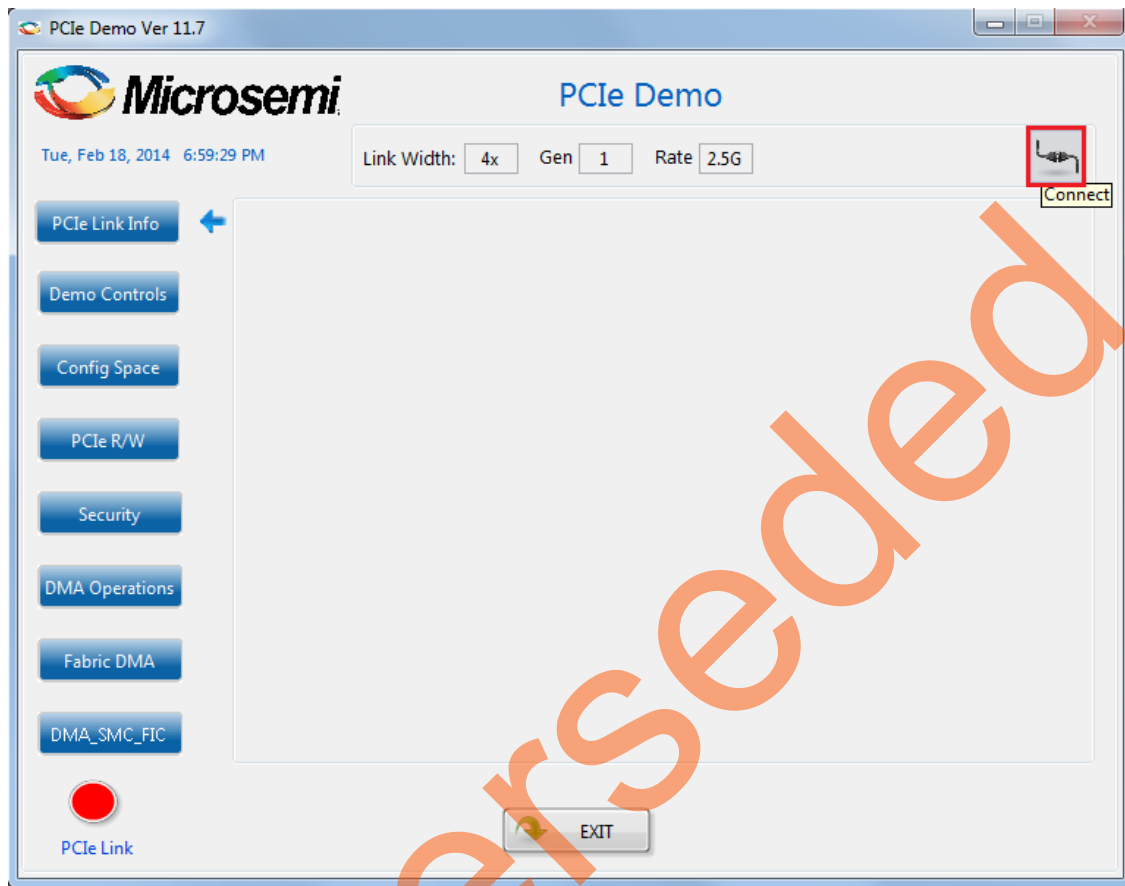

Figure 18 • PCIe_Demo Application
3. Invoke the PCIe_Demo application from **ALL Programs > PCIe Demo > PCIe Demo GUI**. Figure 18 shows the PCIe_Demo launch window.